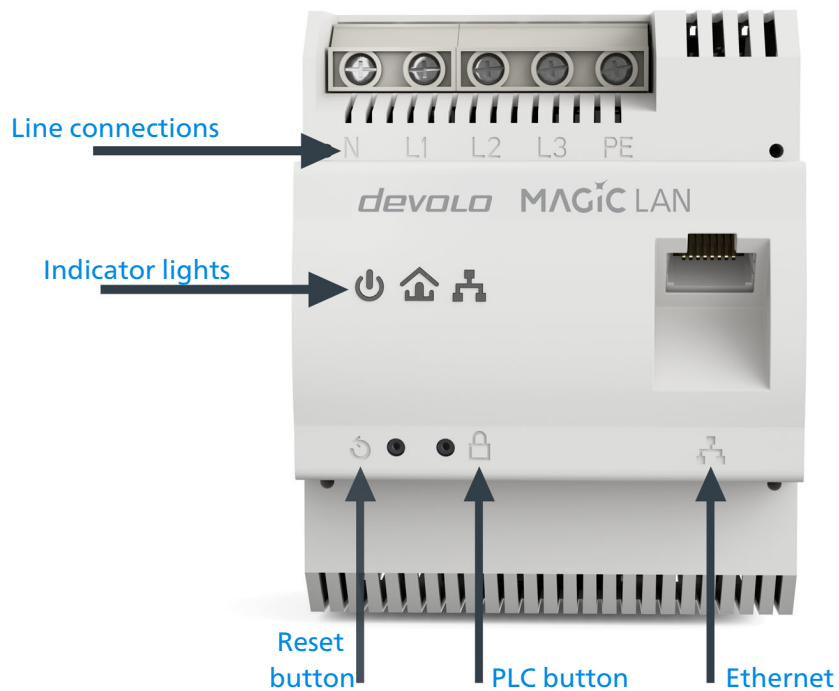

Fig.2
You can use the network connection (Fig. 2) on the devolo Magic adapter to connect it to your internet router using standard network cables.
Power (Fig. 2)
PLC (Fig. 2)
Ethernet (Fig. 2)
- Using the **PLC button** (see Fig. 2)
The device is restarted by pressing the reset button (Fig. 2). The LEDs switch off in the meanwhile.